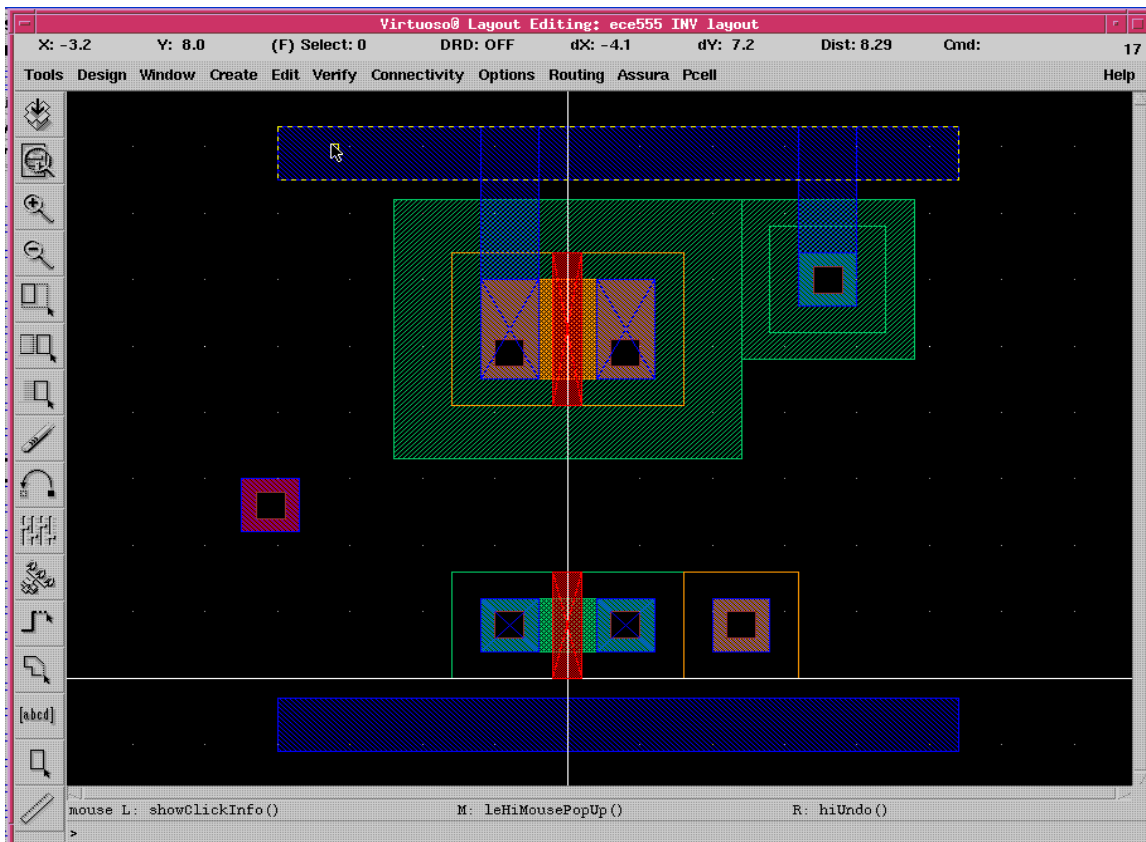

Fig. 9. Power connection to ntap and source of pmos
- Add metal 1(drw) to ntap and source of the pmos for vdd!, as shown Fig. 9.